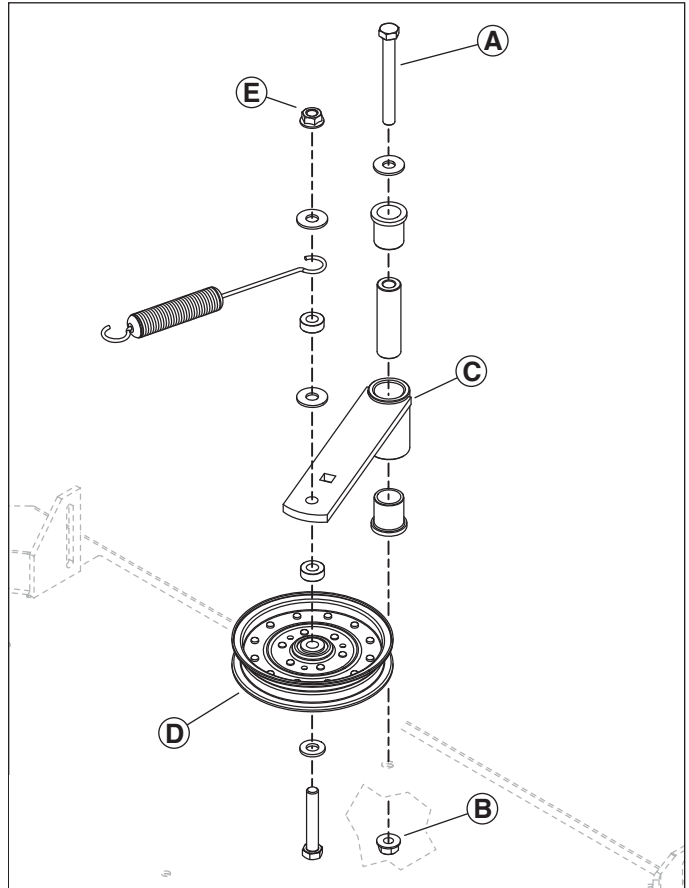
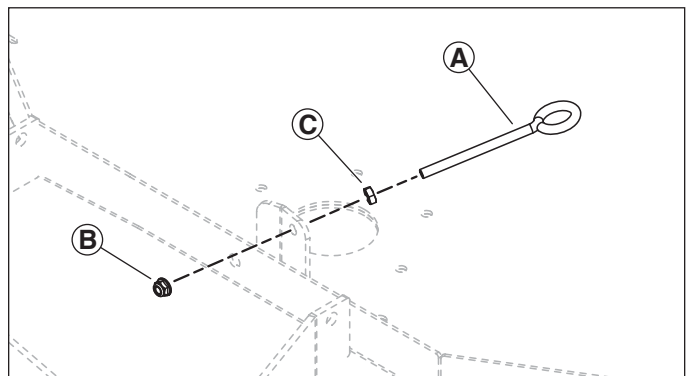

Figure 1. Idler Arm Assembly
Figure 2. Spring Anchor
4. Remove the 1/2-13 X4-1/2" bolt (**A, Figure 1**) and 1/2" nylock nut (**B**) that secures the old idler arm assembly (**C**) to the mower deck. You may discard the nut but be sure to save the bolt for reinstallation.
5. Remove the idler pulley (**D**) from the idler arm, discard the idler pulley, one (1) 1/2" washer and 1/2" nylock nut (**E**), but be sure to save all other hardware for reinstallation.
6. Remove and discard the 3/8" eye bolt (**A, Figure 2**) and 3/8" nylock nut (**B**) from the mower deck, save the 3/8" jam nut (**C**) for reinstallation.